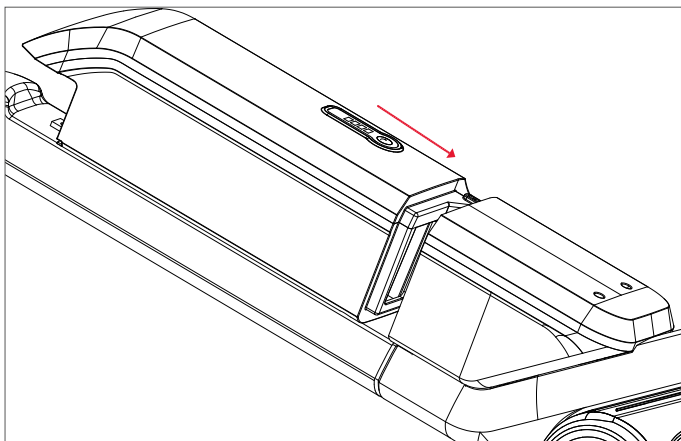

Figure 4.20 Lock assembly – battery insertion
1. Insert the battery / battery model (Fig. 4.20).